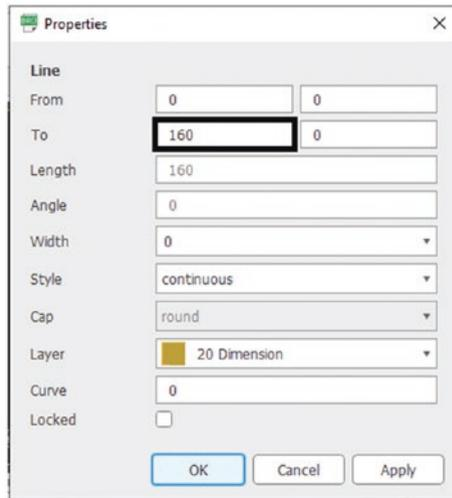

Figure 7-4. Horizontal length
3. The size of the NatBot will be 160mm by 100mm, which is the initial board size that Eagle starts with, so you should not have to change these dimensions. See Figures 7-4 and 7-5.